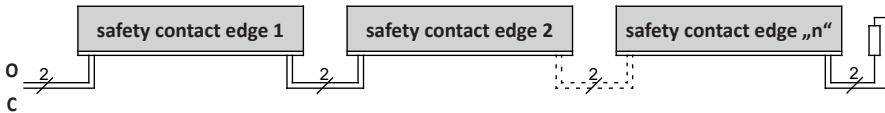

Figure 2: Wiring of multiple safety contact edges
7.2 Connecting multiple safety contact edges per sensor circuit (figure 2)
One or more safety contact edges can be connected to sensor input **O** or **C**. For this purpose, the individual safety contact edges are connected in series according to figure 2.